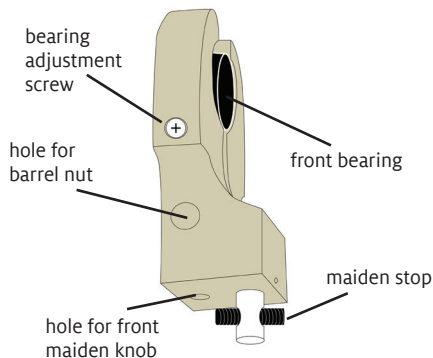

FIGURE 1: BULKY FRONT MAIDEN PARTS
- If the flyer does not spin freely, remove it. Loosen the front maiden knob until you can reach the maiden stop (see Figure 1). Use a 3/16" hex wrench to turn the screw in or out half a turn as needed. Replace the front maiden, re-install the flyer, and secure the front maiden knob. If it spins freely, you can start spinning.
- If the bulky flyer still does not turn freely, adjust the bearing adjustment screw on the side of the bulky front maiden (see Figure 1). Use a #2 Phillips screwdriver to loosen the screw a quarter turn. Test and repeat this step again if needed.